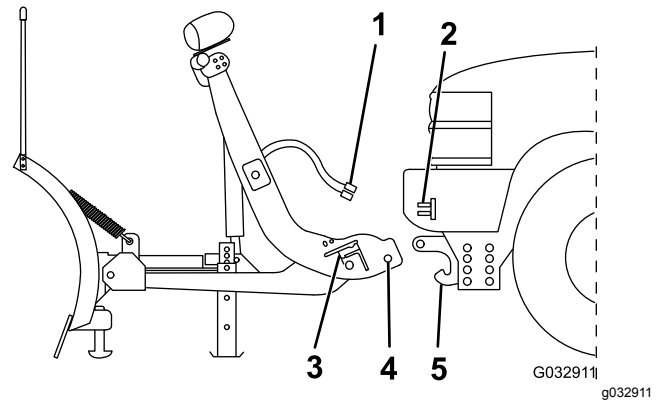

Figure 27
2. Line up the vehicle with the snowplow and slowly drive forward until the lower pin contacts the push-beam pin receiver (Figure 27).
4. Remove the electrical-plug dust-covers and connect the plow wire harness to the vehicle wire harness (Figure 27).